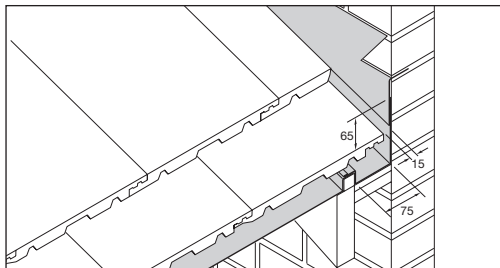

Fig 70 – Secret gutter
- Lay tiles to leave a gap of 15mm by the side of abutment (Fig 70).